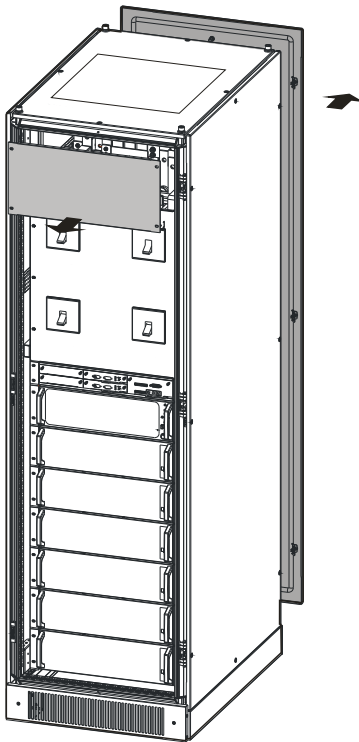

Figure3-14 Remove the sealing plate schematic diagram
Step 1 Open the front door and rear door of the cabinet, as shown in Figure3-14.